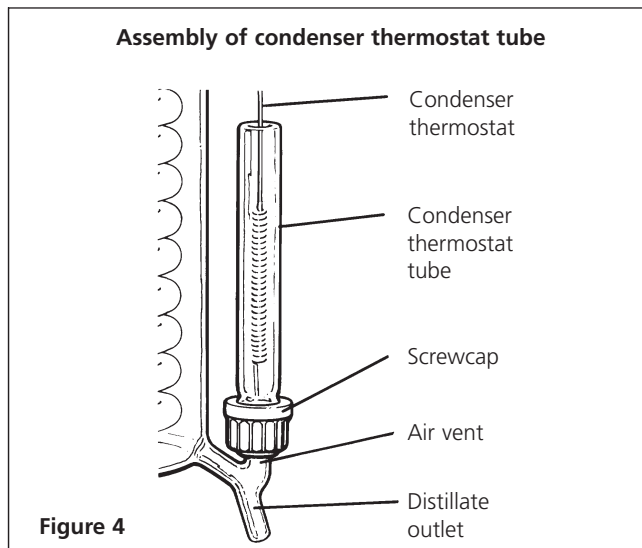

Figure 4
- Assemble the condenser thermostat tube A515414 connecting cap QC18/11, silicone rubber ring QR18/7 as shown in **figure 4**.
If the cap is left loose the assembly may now be carefully slid over the air vent on the distillate outlet - **see figure 4**. Tighten up the cap once the tube is in place.